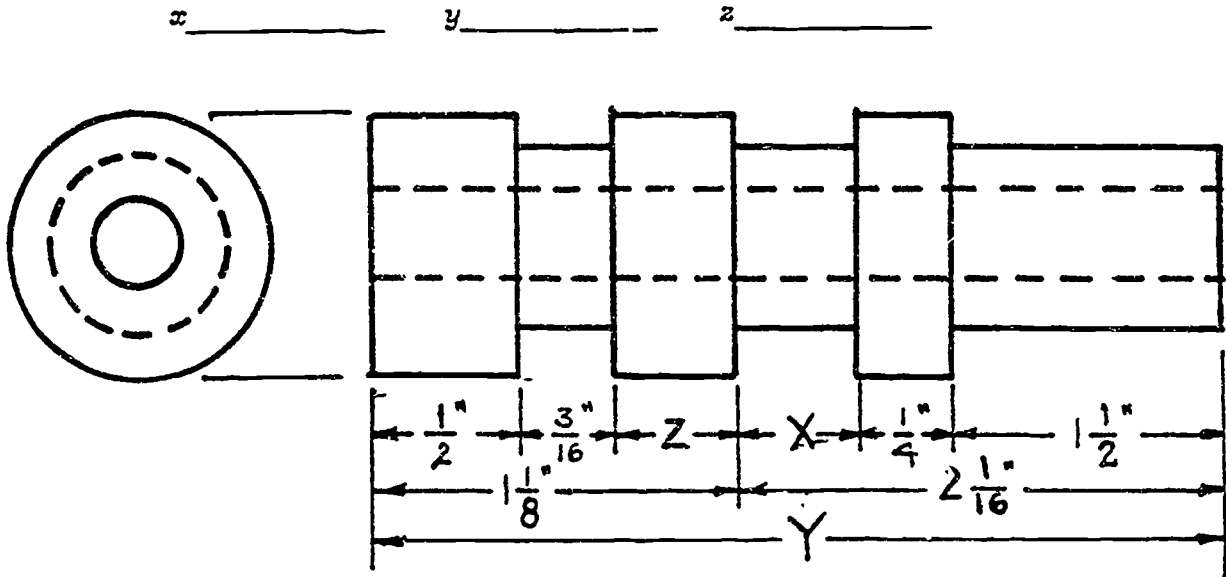

Figure 6: Solve for x , y and z .
4. Your supervisor hands you a machined part like the one shown in Figure 6. You need to find the lengths of the parts labeled x , y , and z .